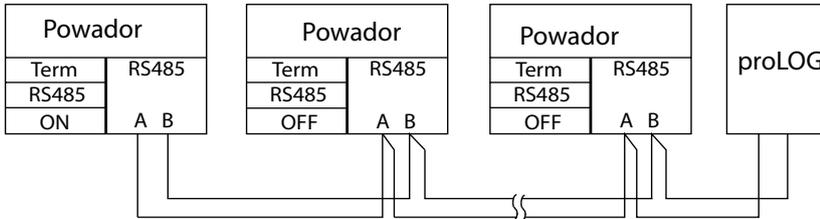

Figure 17: RS485 interface wiring diagram
- Wire B (+) with wire B (+) (see Figure 17 on page 28)
7. This termination does not depend on the manner of cabling that is used. The switch is found on the board next to the terminal block. (See Figure 17 on page 28)